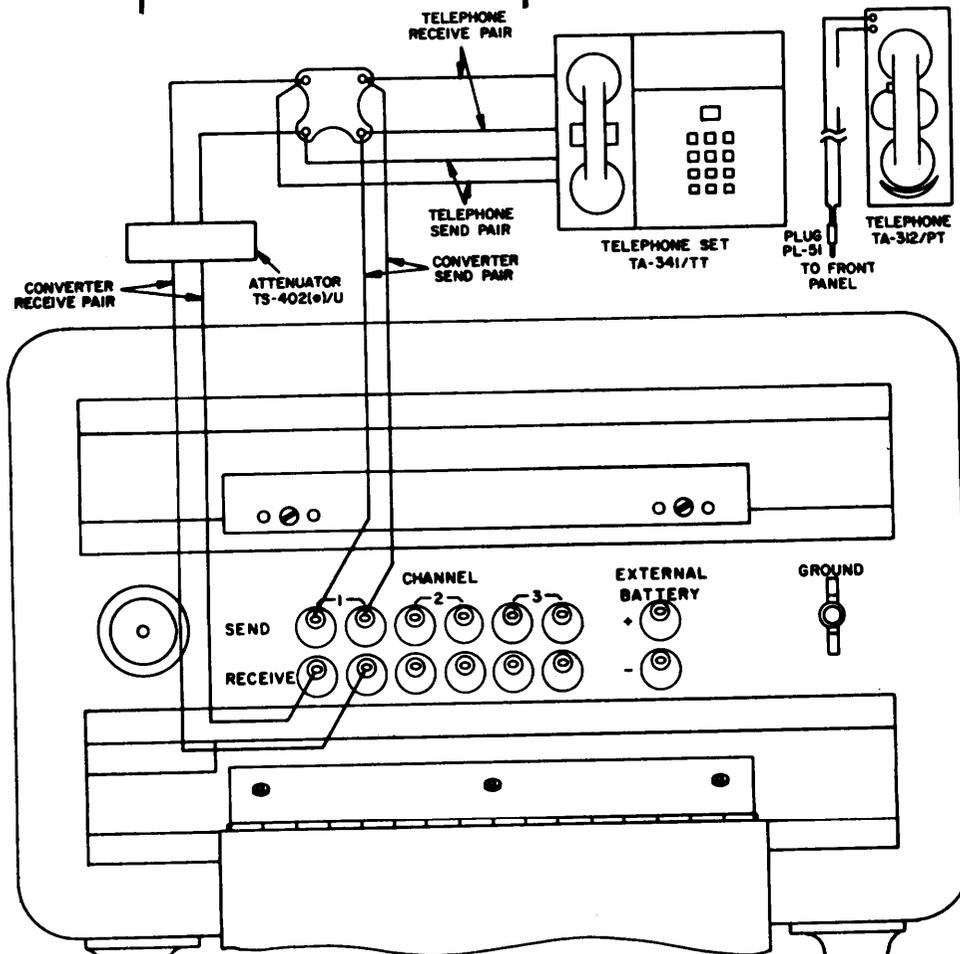

Figure 2-10. Operational performance test.
- (1) Telephone TA-312/PT with Plug PL-51.
- (2) Telephone Set TA-341(\*)/TT.
- (3) Attenuator TS-402(\*)/U.
*b. Test Connections (fig. 2-10).*
- (1) Connect TA-341(\*)/TT send pair through TS-402(\*)/U to CV-1919A/G CHANNEL 1 RECEIVE pair.
- (2) Connect TA-341(\*)/TT receive pair to CV-1919A/G CHANNEL 1 SEND pair.